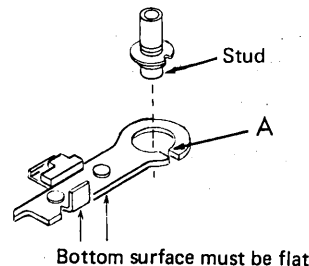

Figure 1-75. Transducer Mounting Bracket
3. The transducer mounting bracket (Figure 1-75) may not fit properly on the gear stud. A burr may be present as shown on illustration (point A) that prevents proper seating of the bracket.